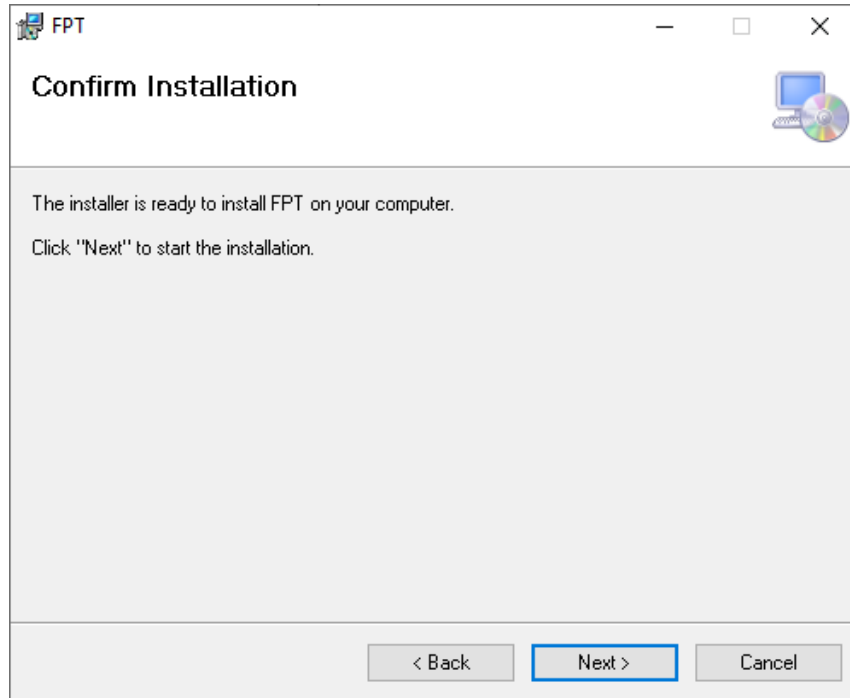

Figure 29 - FPT Installer
11. Confirm that you want to install the new FPT software (Figure 29). Select **Next**.